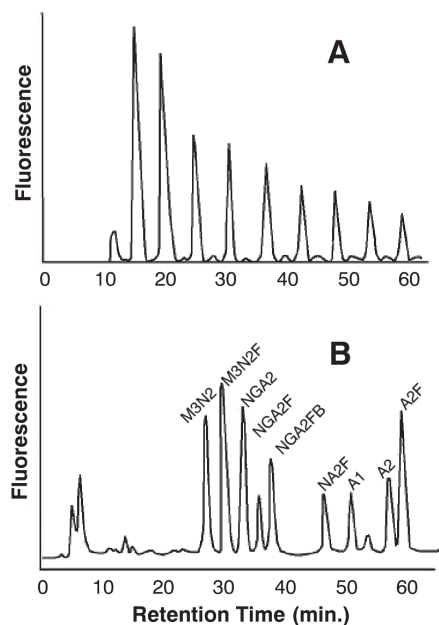

Figure 1 - Separation of 2-AB-labeled Oligosaccharide Standards on GlycoSep N
composition may be predicted from HPLC results. Elution of Signal-labeled glycans may be calibrated, and glucose unit (GU) values assigned, by reference to the peaks in the Signal-labeled Glucose Homopolymer [chromatographed under the same conditions (Figure 1)].